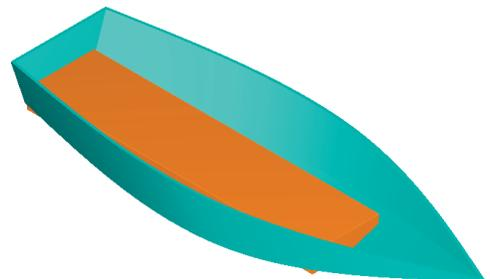

Fig. 4
- Step 9. Set: Distance = **.4** and click OK, **Fig. 4**.